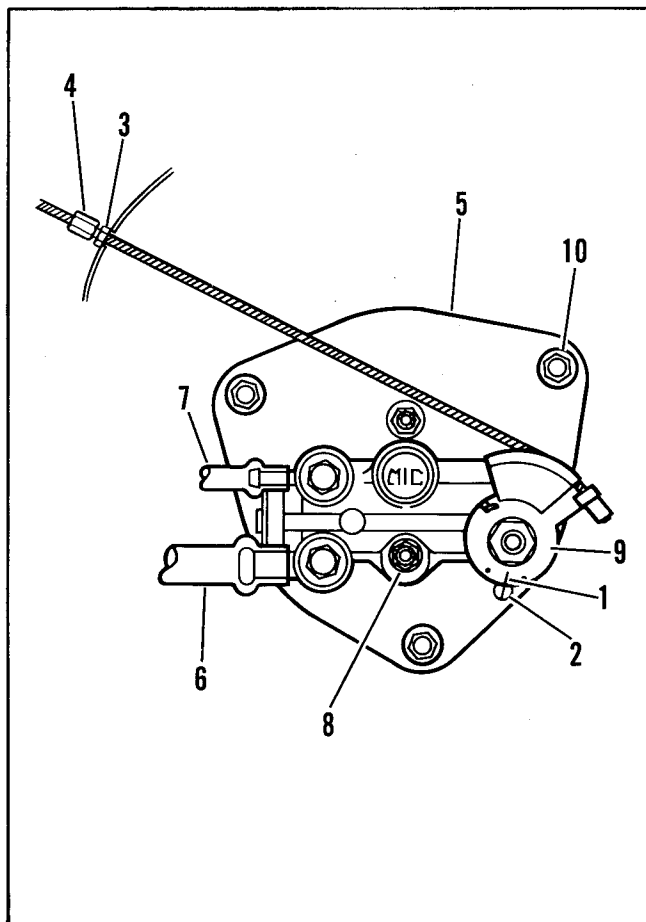

Figure 74 - Oil Injection Pump
33. OIL INJECTION PUMP (Figure 74)